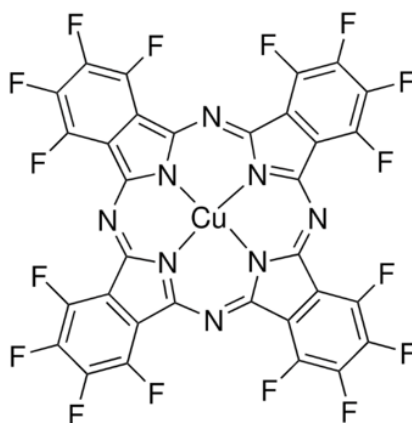

Figure 2: Structural formula of F₁₆CuPc
You will investigate three different samples. The first sample is a Si(100) wafer with a native surface oxide layer. The second sample consists of a thin film of copper-hexadecafluorophthalocyanine ($=F_{16}CuPc$, see Figure 2 for structural formula) deposited on natively oxidized Si(100). The final sample is a 7075 aluminium alloy.